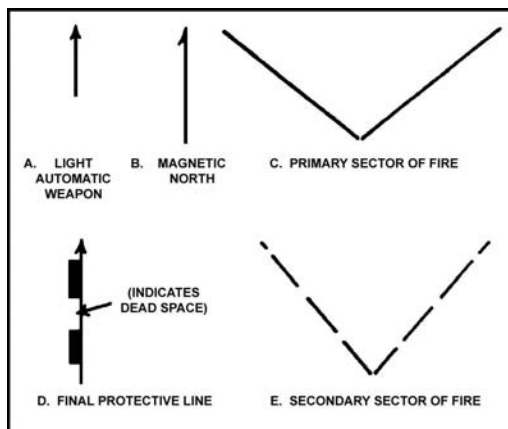

Figure 071-000-0005-1. Symbols
4. Write all necessary information on the range card. Prepare a duplicate range card for the platoon leader. Include all sketches, symbols (figure 071-000-0005-1) and data on both copies.
- (1) Center the machine gun position at the bottom of the sketch.
- (2) Include any prominent natural and man-made features that a target could use to take cover.
- c. Write the following information in the top portion of the range card (figure 071-000-0005-2 and figure 071-000-0005-3):